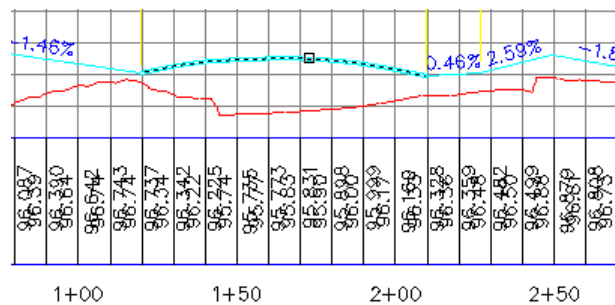

Figure 6-84 Selecting the curve to view its parameters
4. Press and hold the CTRL key and select the curve from the profile view, as shown in Figure 6-84. On doing so, the **Profile Layout Parameters** dialog box is populated with the selected curve parameters.